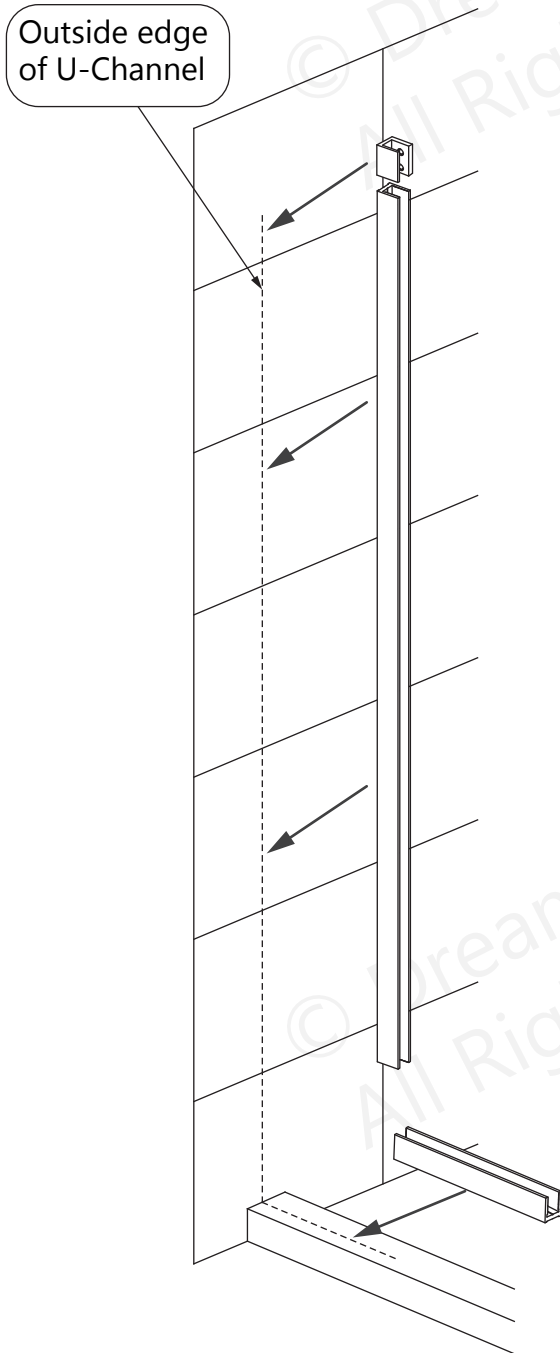

Fig 3
****If the wall is out-of-plumb at the bottom,** measure that dimension (A) and add it to the length of the U-channel (1/4" max): **Finished cut length= Glass Width + 3/16" + dimension A**
3. Position the U-channels and **Hinge Panel Glass Bracket (#36)** on the wall and threshold to mark the holes for drilling. **(Fig 3)**